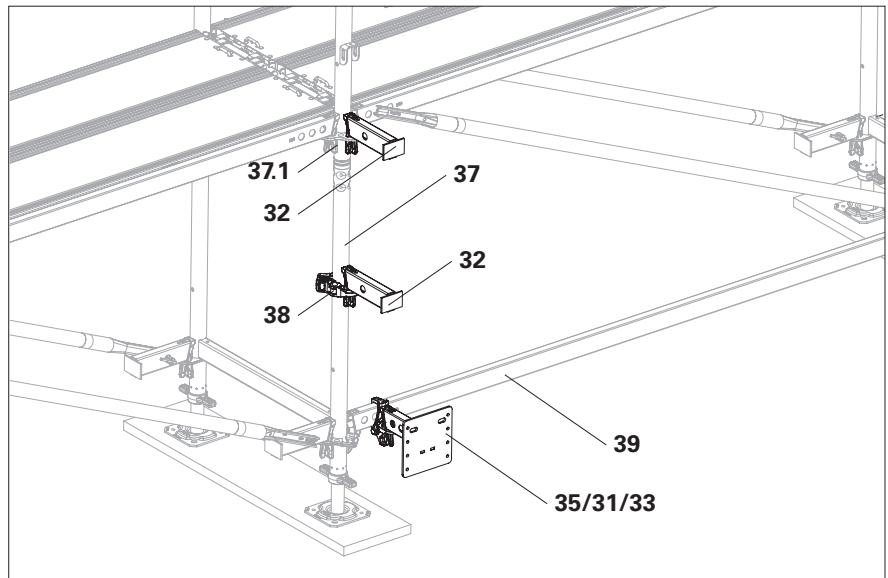

Fig. C4.05
2. Fit a Ledger Coupler UHA-2 (**35**) with Horizontal Ledger UH-2 25 (**31**) and Multi-console Bracket CEB (**33**) to Horizontal Ledger UH-2 250 (**39**). (Fig. C4.05)